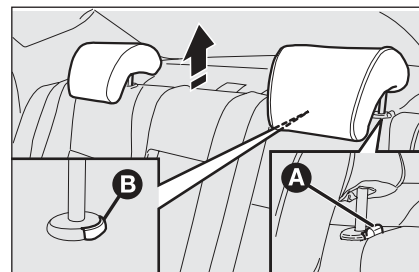

fig. 35
- ☐ press buttons **A** and **B**-fig. 35 (set aside the two head restraint supports) then remove the head restraints by pulling them upwards.